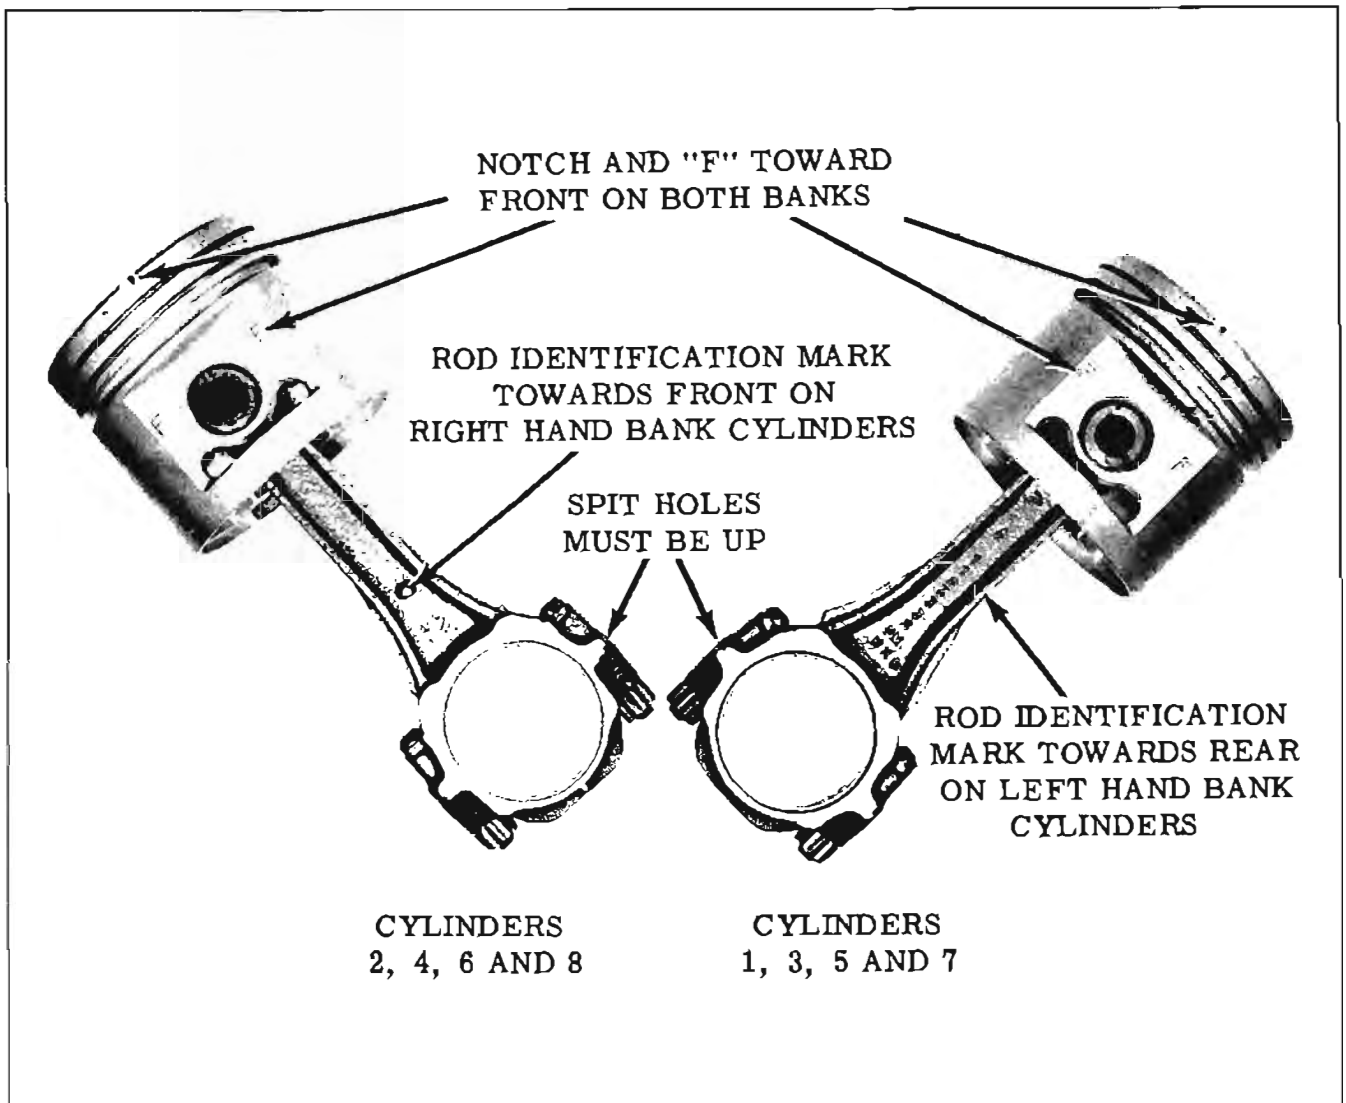

Fig. 8-134 Piston and Connecting Rod Assembly
2. Place piston on Tool J-8754-1 with letter "F" facing up. Refer to Fig. 8-134 for correct rod and piston assembly.